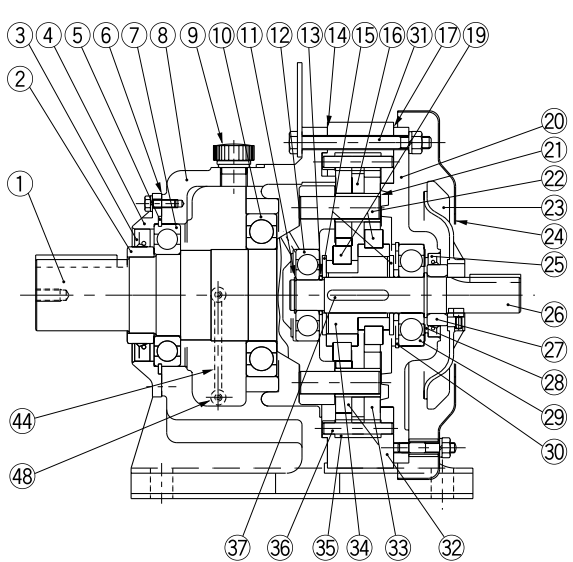
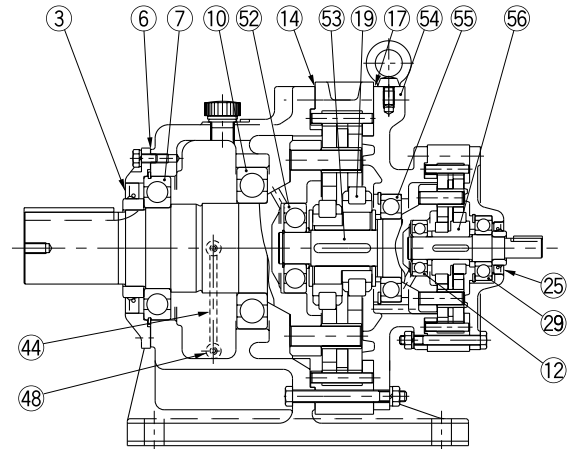

Fig. 28 Type CHH (Horizontal • Reducer)
Fig. 34 Type CHH (Horizontal • Reducer)
| Slow speed shaft bearing A | Fig. 28 (P30) | Fig. 34 (P31) | ⑦ |
| Slow speed shaft bearing B | Fig. 28 (P30) | Fig. 34 (P31) | ⑩ |